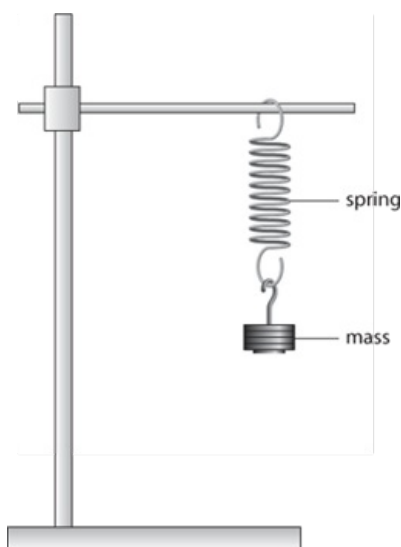

Figure 11.4: Spring suspended from rod with mass on other end.
- 1 Set up the apparatus as shown in Figure 11.4 so that vertical oscillations of the mass on the spring can be measured.